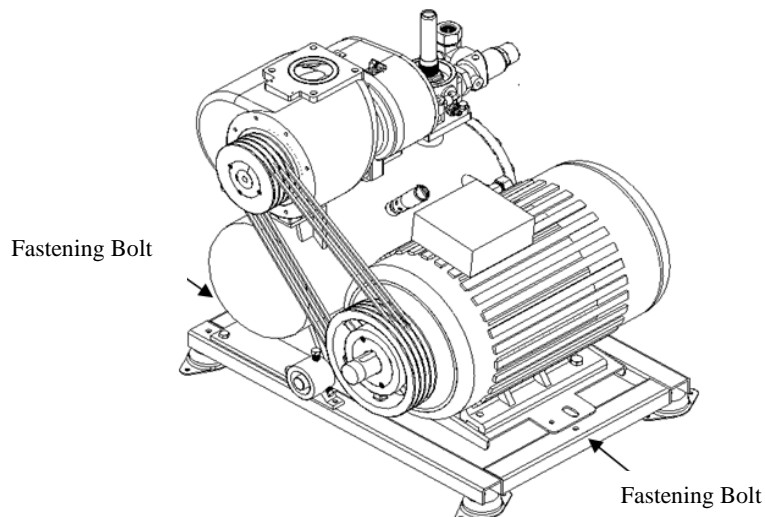

Figure 2.4
- (2) Then please check if all the fastening bolts and adjuster bolts on the pedestal have been dismantled. The air compressor can be run only if all fastening bolts have been removed (Fig. 2.4)